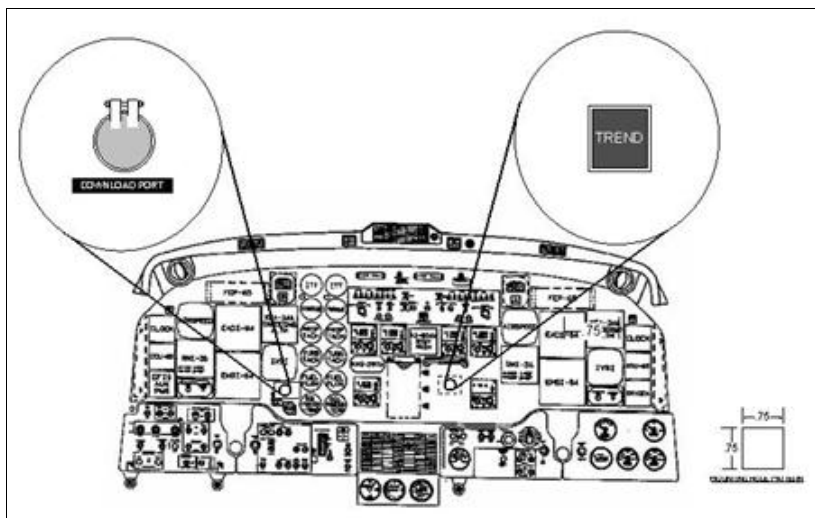
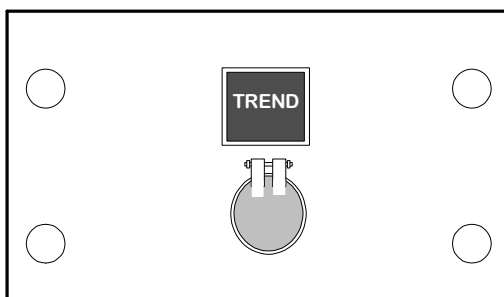

Figure C- 5: Cockpit Display (Discrete Component Mount)
Figure C- 6: Single Cockpit Display (Center Console Mount Assembly)
The ADAS+ has a single TREND switch / fault lamp and download port (Figure C- 5 and Figure C- 6). The TREND switch and download port, explained in this section, consists of a .75" x .75" square push-to-test lamp and a serial download connector. The twin engine ADAS+ TREND switch/fault lamp, download port, and connector are available in a pre-wired center-console mount assembly (TWIN-A-064-2), or as a discrete component kit (TWIN-K-045-2).
- 010 Following Figure C- 5, mark and punch a .75" square hole for mounting of the system TREND switch/fault lamp.